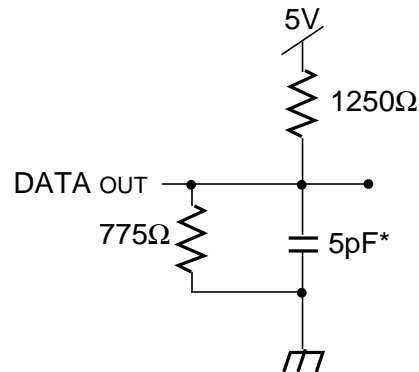

Figure 2. Output Test Load
1. Transition is measured ±500mV from Low or High-impedance voltage Output Test Load (Figure 2).
1. Transition is measured $\pm 500mV$ from Low or High-impedance voltage with Output Test Load (Figure 2). This parameter is guaranteed by device characterization but is not production tested.